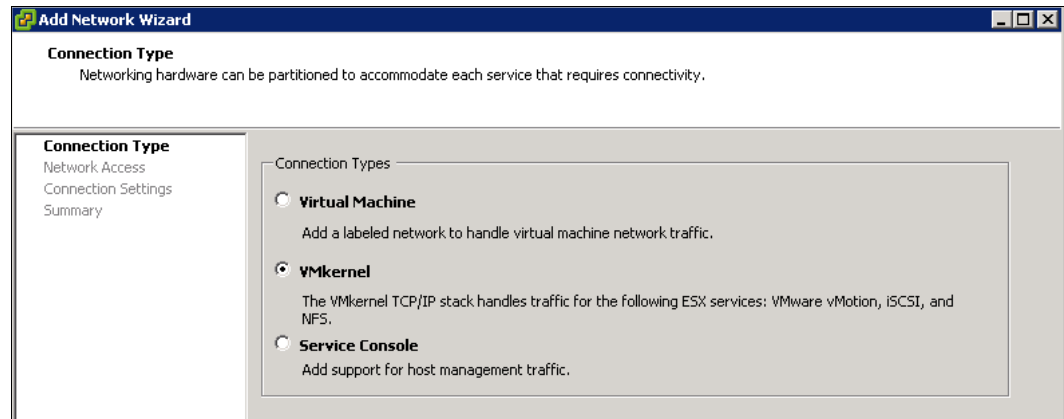

Figure 4-9 VMware: Add Network Wizard
2. Click **Add Networking** to start the Add Network Wizard (Figure 4-9). Select **VMkernel** and click **Next**.